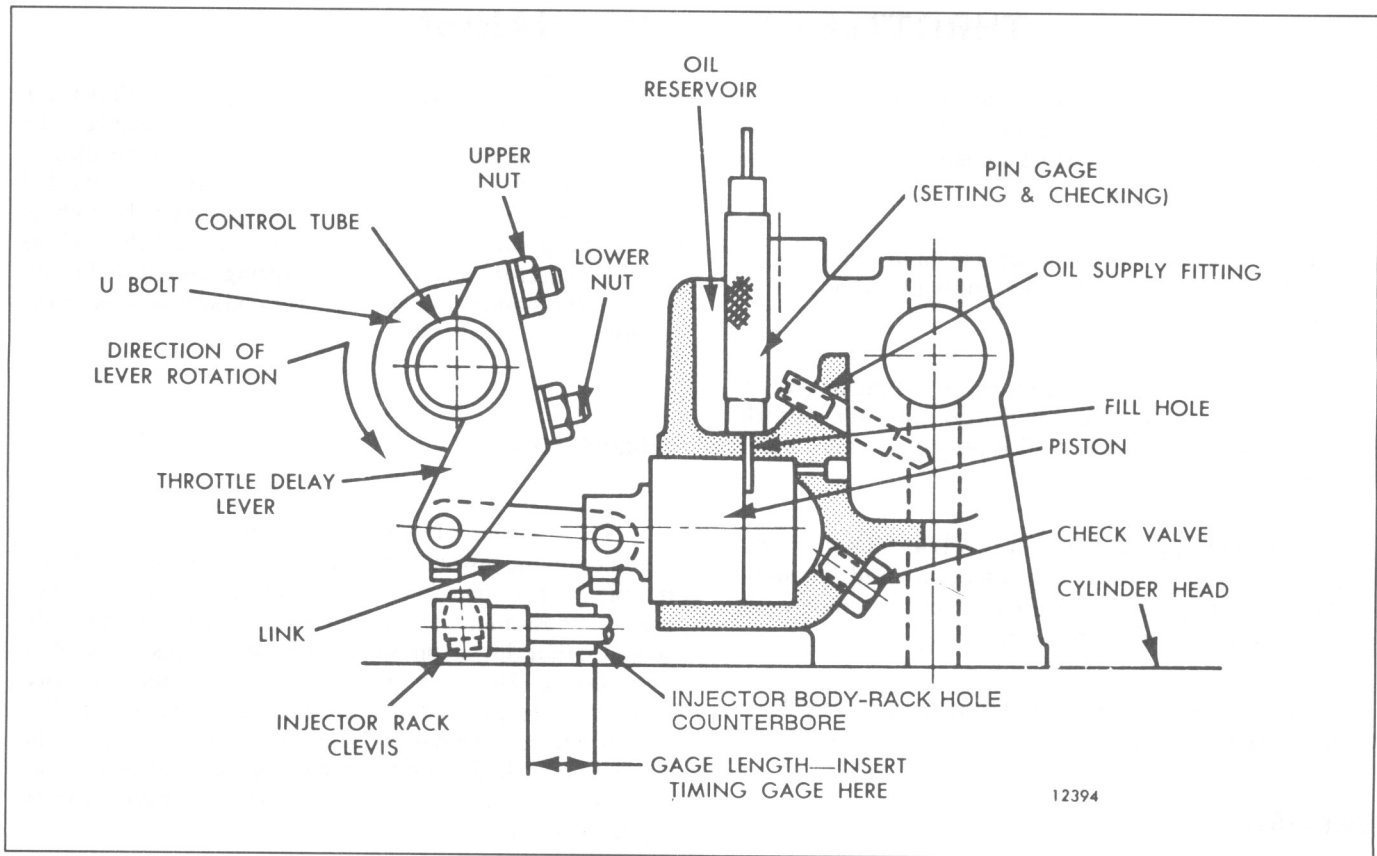

Fig. 4 - Adjusting Throttle Delay Cylinder (Current)
1. Disconnect the throttle delay mechanism by loosening the U-bolt which clamps the lever to the injector control tube (Fig. 4).
6. Rotate the throttle delay lever in the direction shown in Fig. 4 until further movement is limited by the piston contacting the pin gage.